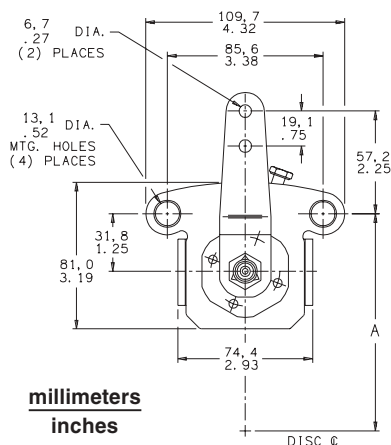

FIGURE 1
- Using Figure 1 and Table 2, determine "A" dimension and locate caliper mounting holes.